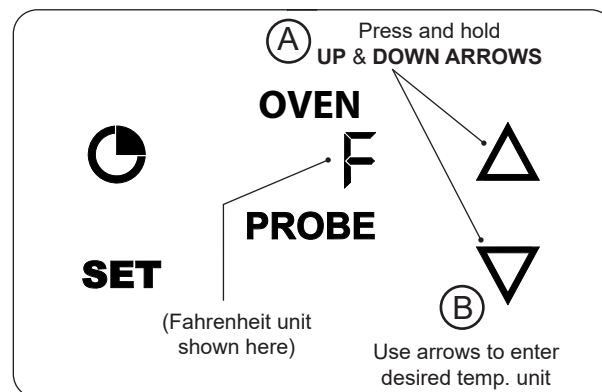

Fig. 35-3 Change temp. unit
1. Press and hold the **UP** and **DOWN** arrows until °F or °C is displayed (Fig. 35-3, A).
2. Press the **UP** or **DOWN** arrow to select the desired temp unit (Fig. 35-3, B).